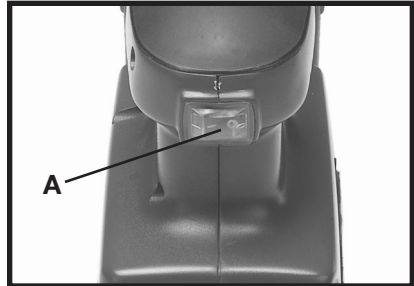

Fig.10
⚠CAUTION MAKE SURE POWER SWITCH (A) FIG. 10, IS IN THE OFF POSITION.
2. While holding sander firmly and off of work surface, slide switch (A), Fig. 10, to the "ON" position.
3. When you are finished sanding, lift sander up off work and slide switch (A), Fig. 10, to the "OFF" position to stop sander.